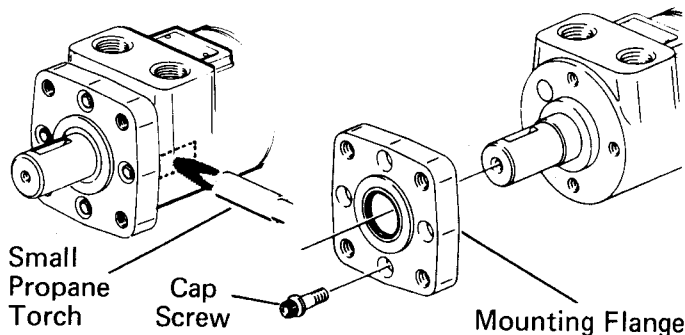

Figure 7
**Note:** If higher torque than given above is required to break the screws loose, apply heat according to the following instructions. When heated the Loctite partially melts and the torque required to remove the screw is greatly reduced. Follow the instructions carefully, and be careful not to overheat and cause damage to the motor. Use a small flame propane torch to heat a small area of the housing, where the screw enters, see Fig. 7. Apply torque to the screw with a socket wrench gradually as heat is applied for 8 to 10 seconds. As soon as the screw breaks loose, remove heat from the housing and continue turning the screw until it is completely removed.